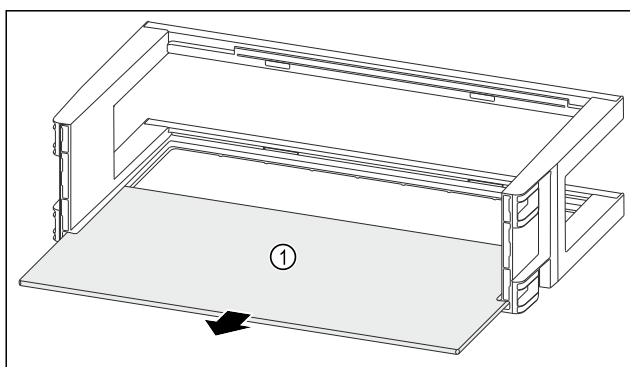

Fig. 92
- Remove the shelf Fig. 92 (1).